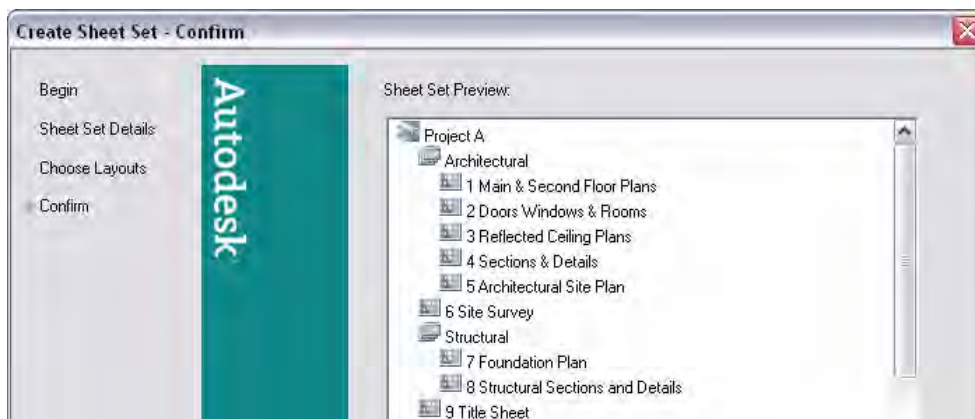

Figure 2.
6. Preview the sheet set and ensure that it matches Figure 2.